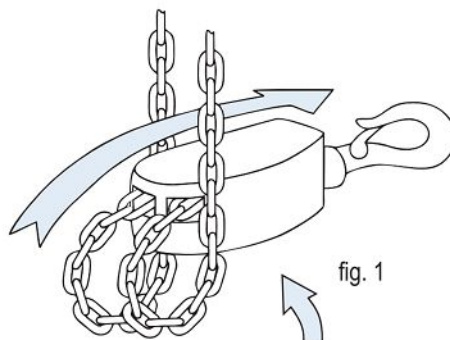

fig. 1
- the hook is not twisted around the lifting chain(s) - for the hoists that have multiple lifting chains lines (see fig. 1);